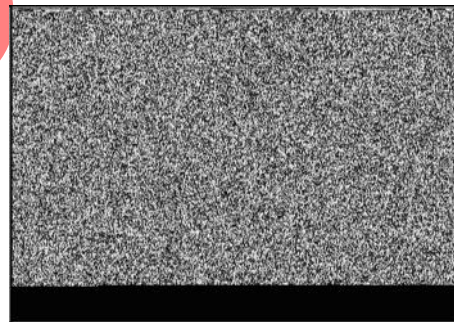

Figure 6
4. Place upper muffler bracket over muffler and on lower muffler bracket. Install screws (A, Figure 6) and torque to values listed in Section 12 - Engine Specifications.